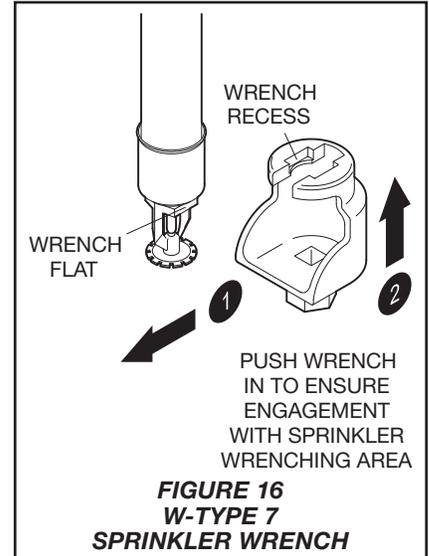

FIGURE 16
- the W-Type 7 Sprinkler Wrench on the Wrench Flat (Ref. Figure 16)